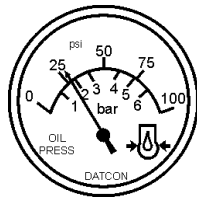

Figure 47. Oil Pressure Gauge
13. The engine oil pressure gauge (Figure 47) will indicate the oil pressure (kg/ cm²) of the engine. Under normal operating conditions the oil pressure is approximately 25 psi.